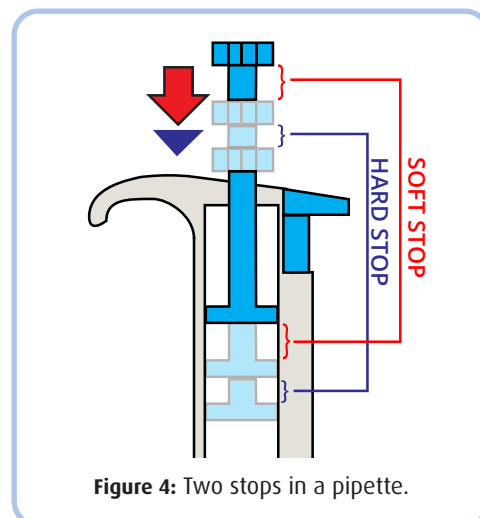

Figure 4: Two stops in a pipette.
*This step is slightly complicated by the fact that most micro-pipettes have two plunger positions (Figure 4). Depressing the button to the first "soft" stop (red brackets in Fig. 4) creates a vacuum that matches the set volume. This will result in the correct amount being aspirated. However, depressing the button to the second "hard" stop (red + blue brackets in Fig. 4) will expel additional air and create a larger vacuum than desired. While a great feature for purging, using the second stop when aspirating will create an inaccurate measurement.